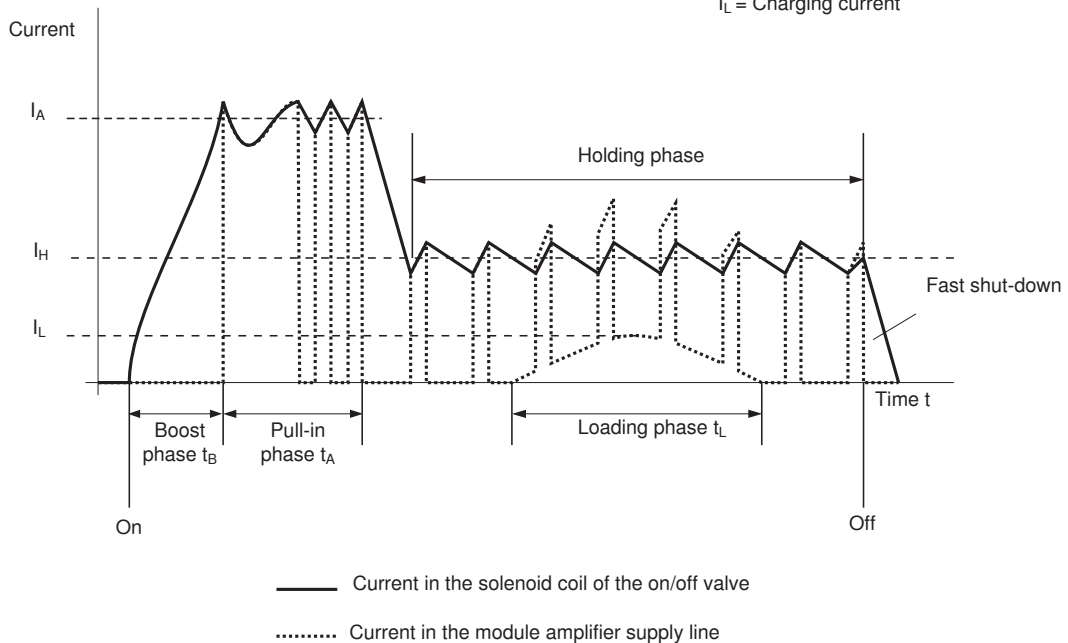

Fig. 2: Current profile of the VT-MSFA1
If voltage is applied to both switching inputs "IN1" and "IN2" (2), which is greater than / equal to the switch-on threshold, the output stage is activated. By means of the voltage and current profile generator (3), the output stage generates a voltage/current profile (see figure 2) at the valve solenoid (terminal 7 and 8), which leads to overexcitation of the solenoid. This overexcitation allows for considerably reduced switching times of the valve.